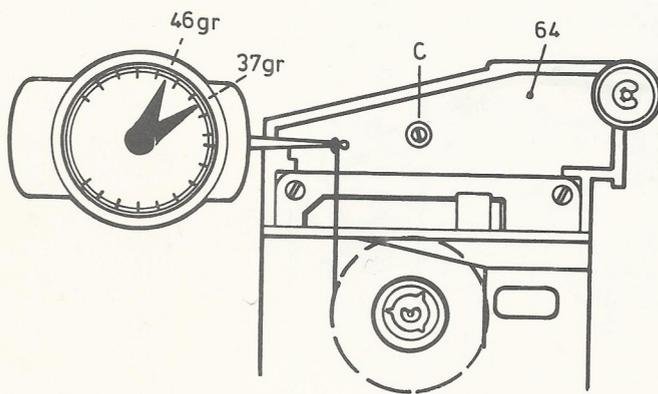

Fig. 6
7. Adjusting the slip-action clutch (Fig. 6)